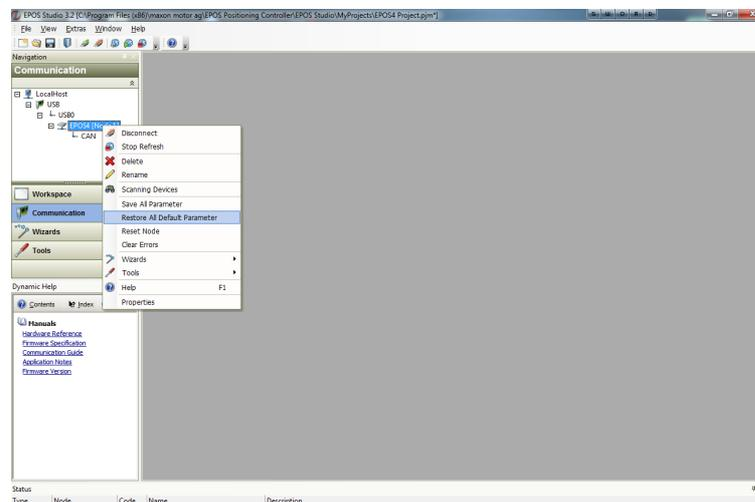

Figure 8-124 Adjustment of SSI commutation offset value | Restore all default parameters
- 6) If you are not quite sure what parameters are set, execute the command «Restore all default parameters» (→ Figure 8-124) before continuing.